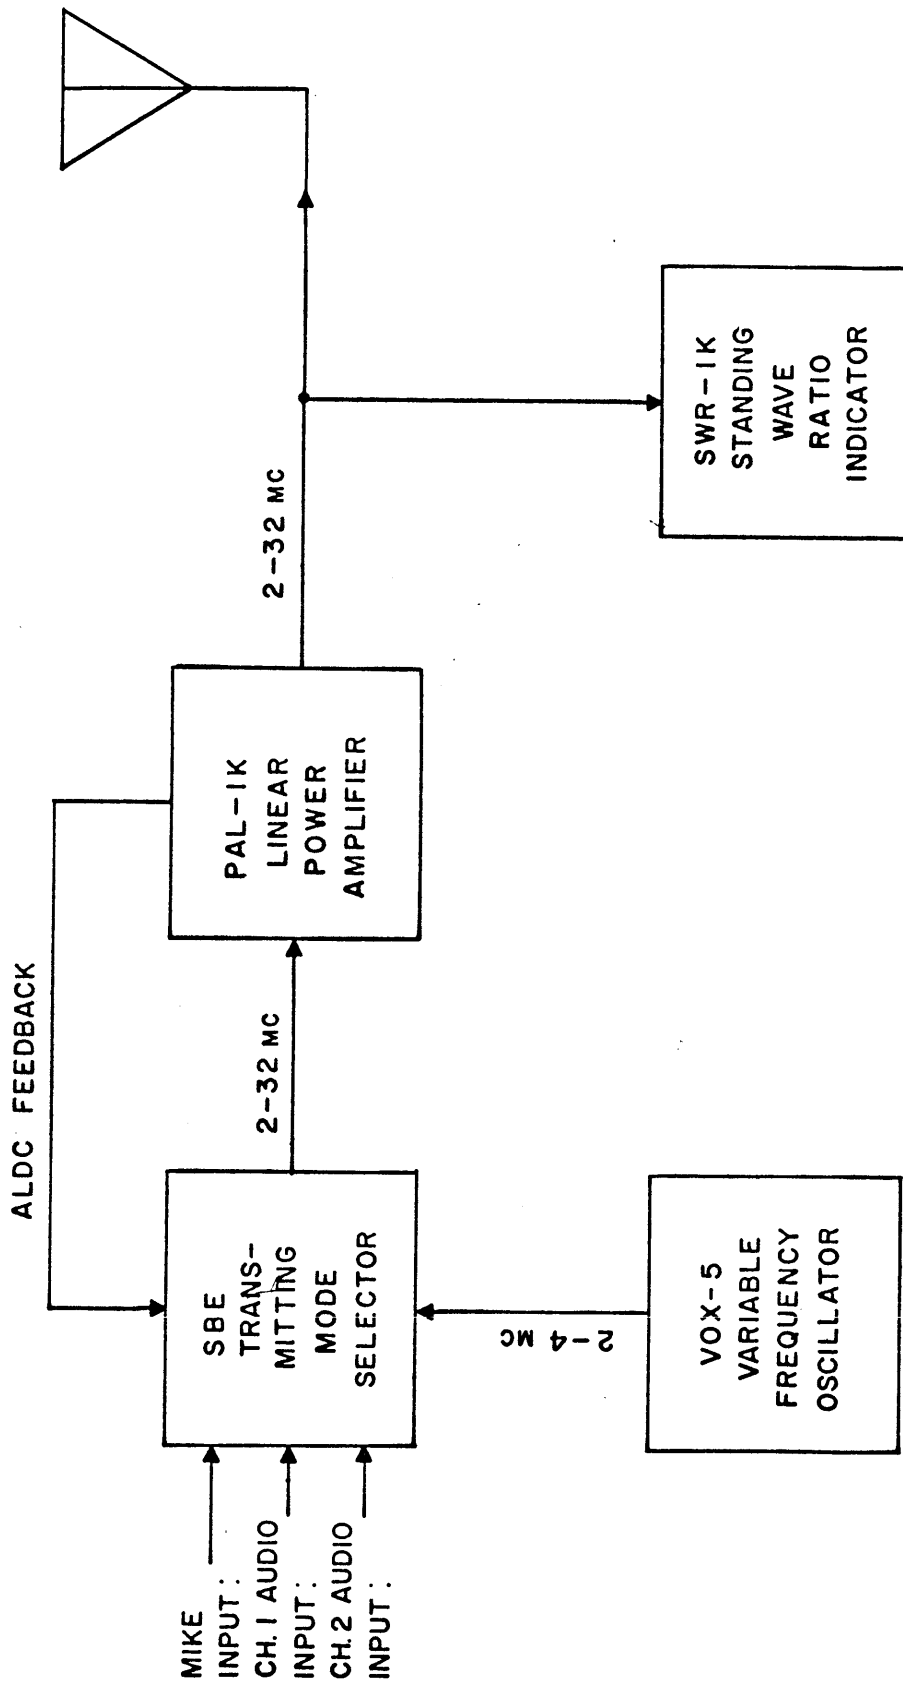

Figure 4-1. Functional Block Diagram, SBT-1KA6
Figure 4-1 is a functional block diagram of the SBT-1KA6 transmitter, showing the main interrelationships of the SWR-1K, PAL-1K(B2), VOX-5 and SBE-8. For a complete functional block diagram and schematic diagram of each unit, refer to the individual manual for the unit. Schematic diagrams for AX-198 Transmit/Receive Switching Unit, APP-4 Auxiliary Power Panel are shown in the appropriate Technical Information Manual.
a. GENERAL - As shown in figure 4-1, an audio input is translated into sideband or AM signals in the 2-32 mc range. The VOX-5 furnishes a continuously adjustable 2-4 mc as an injection frequency for one of SBE's modulation stages, thereby providing continuous adjustment for SBT-1K's 2-32 mc output. The output of the SBE is amplified up to 1 kilowatt by PAL-1K. The SWR-1K serves to reflect the VSWR (Voltage Standing Wave Ratio) on the antenna, in order to aid in tuning adjustments to match SBT-1KA6 to the antenna. In CW transmission, the VOX-5 generates the 2-4 mc signal which is raised to 2-32 mc range in the SBE and amplified in the PAL-1K. Keying is accomplished in the PS-4A (P/O PA-1K(B2)). Although VOX-5 is capable of delivering 2-64 mc, only the output of its 2-4 mc master oscillator is used in the SBT-1KA6.